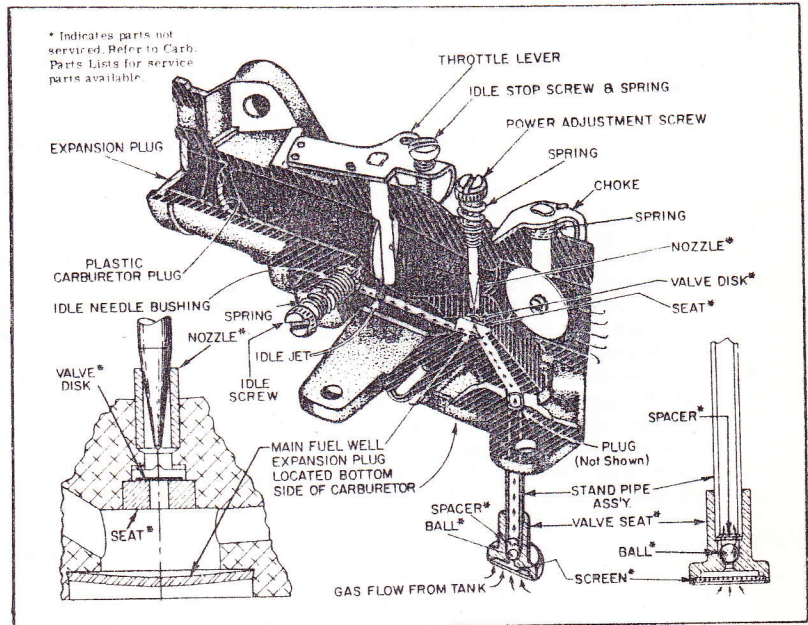

FIG. 3
8. If engine does not start, check foot valve & stand pipe ass'y. Refer to Sec. III-10 & Fig. 3.
- a. Turn idle screw (CW) until completely closed and then open (CCW) four turns to 4-1/2 fine thread, 1-1/2 turns coarse thread for starting setting. Do not force when closing.
- b. Turn high speed screw (power screw) (CW) until completely closed and then open (CCW) 3/4 to 1 turn for starting setting. Do not force.
- d. To adjust hi-speed (power needle) move speed control to fast position and turn needle in (CW) until engine misfires; open screw (CCW) until engine sound smooths out. If power screw is open too far, engine exhaust will be heavy & dull and engine may again misfire.
- e. Move speed control to idle or slow speed setting - adjust throttle stop screw to keep engine operating at slow speed. Stop screw sets minimum speed. Turn idle adjustment screw (CW) or toward closed position slowly and continue closing as long as engine sound improves and engine speed increases. In some cases idle screw may need to be opened to secure desired results. Carburetor has an idle speed between 1800 to 2200 RPM.
10. Should it not be possible to start engine check stand pipe ass'y by removal of carburetor & tank ass'y from engine and then remove tank. Ball can stick in stand pipe ass'y and one should be able to blow (by mouth from bottom or screen side) air through the stand pipe ass'y. Should the stand pipe be plugged, soak in carburetor solvent to loosen gum or varnish and then recheck for proper function or replace stand pipe ass'y. Fig. 3. CAUTION: Be certain that spacer is in position; it keeps ball from blocking end of stand pipe. Also check to see that installation of stand pipe ass'y has not moved metal into fuel passage. For disassembly and reassembly instructions, see Engine Service Manual, Pages 27 & 28, Sec. III, Div. A (Authorized Clinton Accounts).